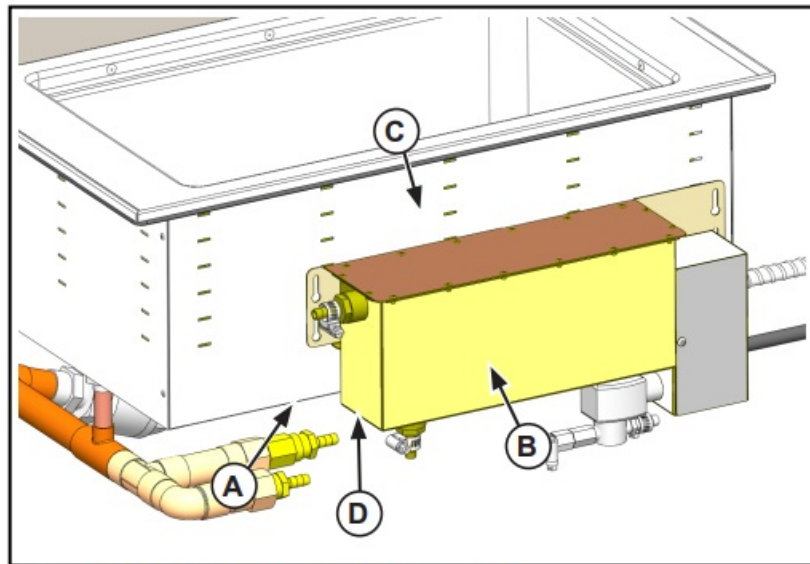

Figure 2. Water Reservoir and Well Assembly.
5. For installation with Rectangular Drop-In For initial setup, mount the Auto-Fill main body water reservoir (B) level to the bottom of any full size Vollrath hot well (C) unit outer skin. Mark and use appropriate length fasteners to mount reservoir (B) assembly in a level position (D) to the bottom of the well assembly (A). See Figure 2.
6. For use with Round Soup Drop-In: Install the reservoir (B) 5/8" (15 mm) below the bottom of a Vollrath round soup drop in unit outer skin. See Figure 2.